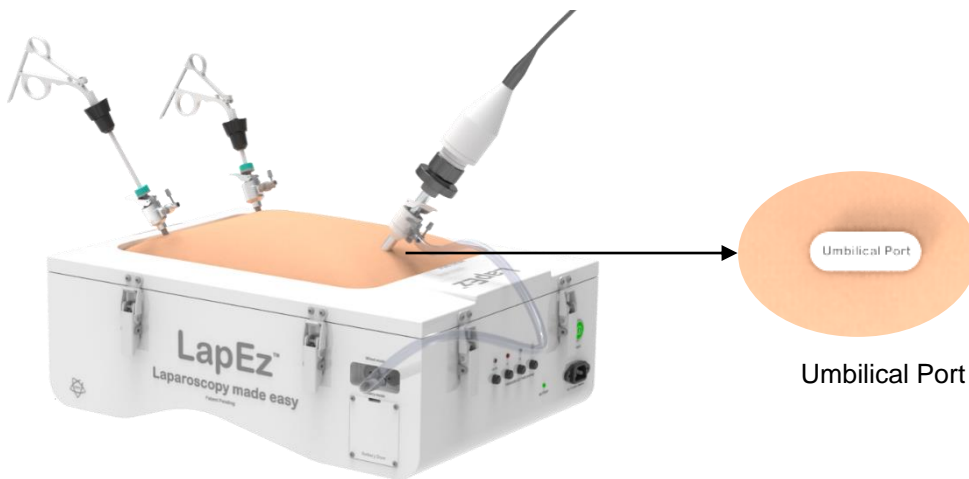

Fig 10. Umbilical Port
5.2 Create a Port in the LAW by inserting a trocar through the umbilical port mark provided in the LAW, or create a custom port using a trocar. Refer Fig 10.